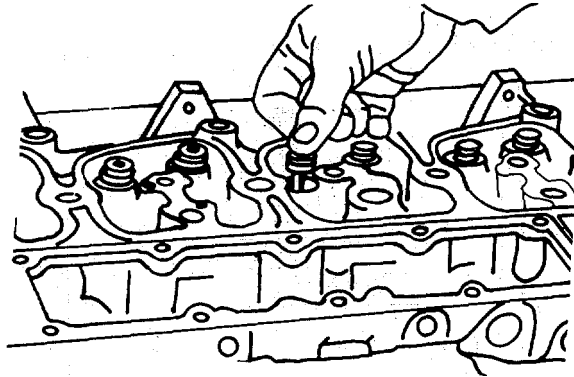

FIGURE 4-25 . Installing Valve Stem Seals.
- b. Install the valve stem seals (4) as shown in FIGURE 4-25.